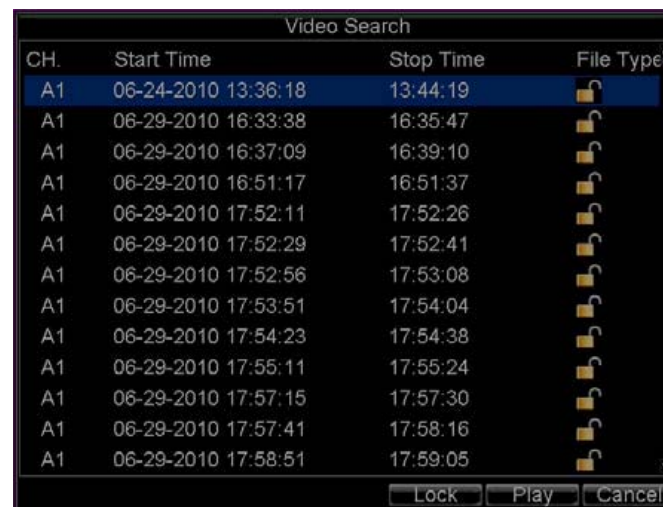

Figure 6.7
- 3) Click the *Search* button. A list of record files (see Figure 6.7) matching the search parameters will be displayed.